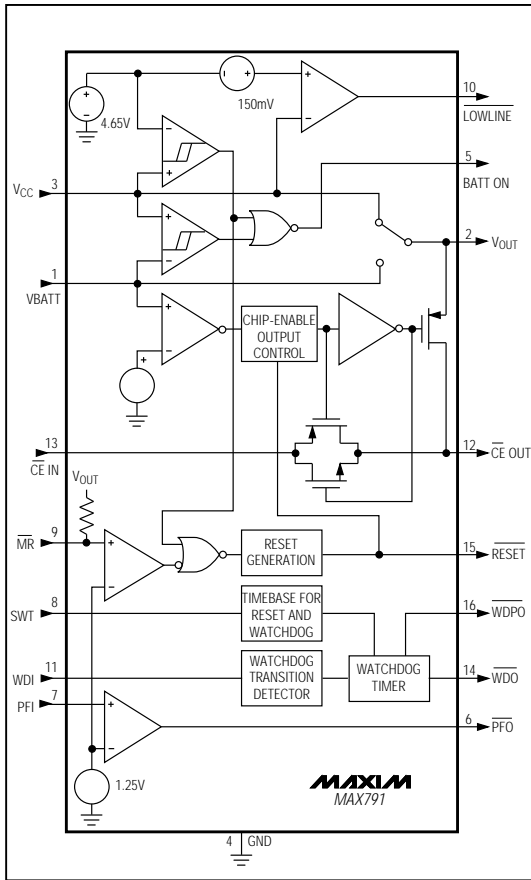

Figure 1. Block Diagram
Many μP -based products require manual-reset capability, allowing the operator or test technician to initiate a reset. The Manual Reset Input ($\overline{\text{MR}}$) can be connected directly to a switch, without an external pull-up resistor or debouncing network. It connects to a 1.25V comparator, and has a pull-up to V_{OUT} as shown in Figure 1. The propagation delay from asserting $\overline{\text{MR}}$ to $\overline{\text{RESET}}$ asserted is 4 μs typical. Pulsing $\overline{\text{MR}}$ low for a minimum of 15 μs resets all the internal counters, sets the Watchdog Output ($\overline{\text{WDO}}$) and Watchdog-Pulse Output
The MAX791 provides internal gating of chip-enable (CE) signals, to prevent erroneous data from corrupting the CMOS RAM in the event of a power failure. During normal operation, the CE gate is enabled and passes all CE transitions. When reset is asserted, this path becomes disabled, preventing erroneous data from corrupting the CMOS RAM. The MAX791 uses a series transmission gate from the Chip-Enable Input (\overline{CE} IN) to CE OUT (Figure 1).